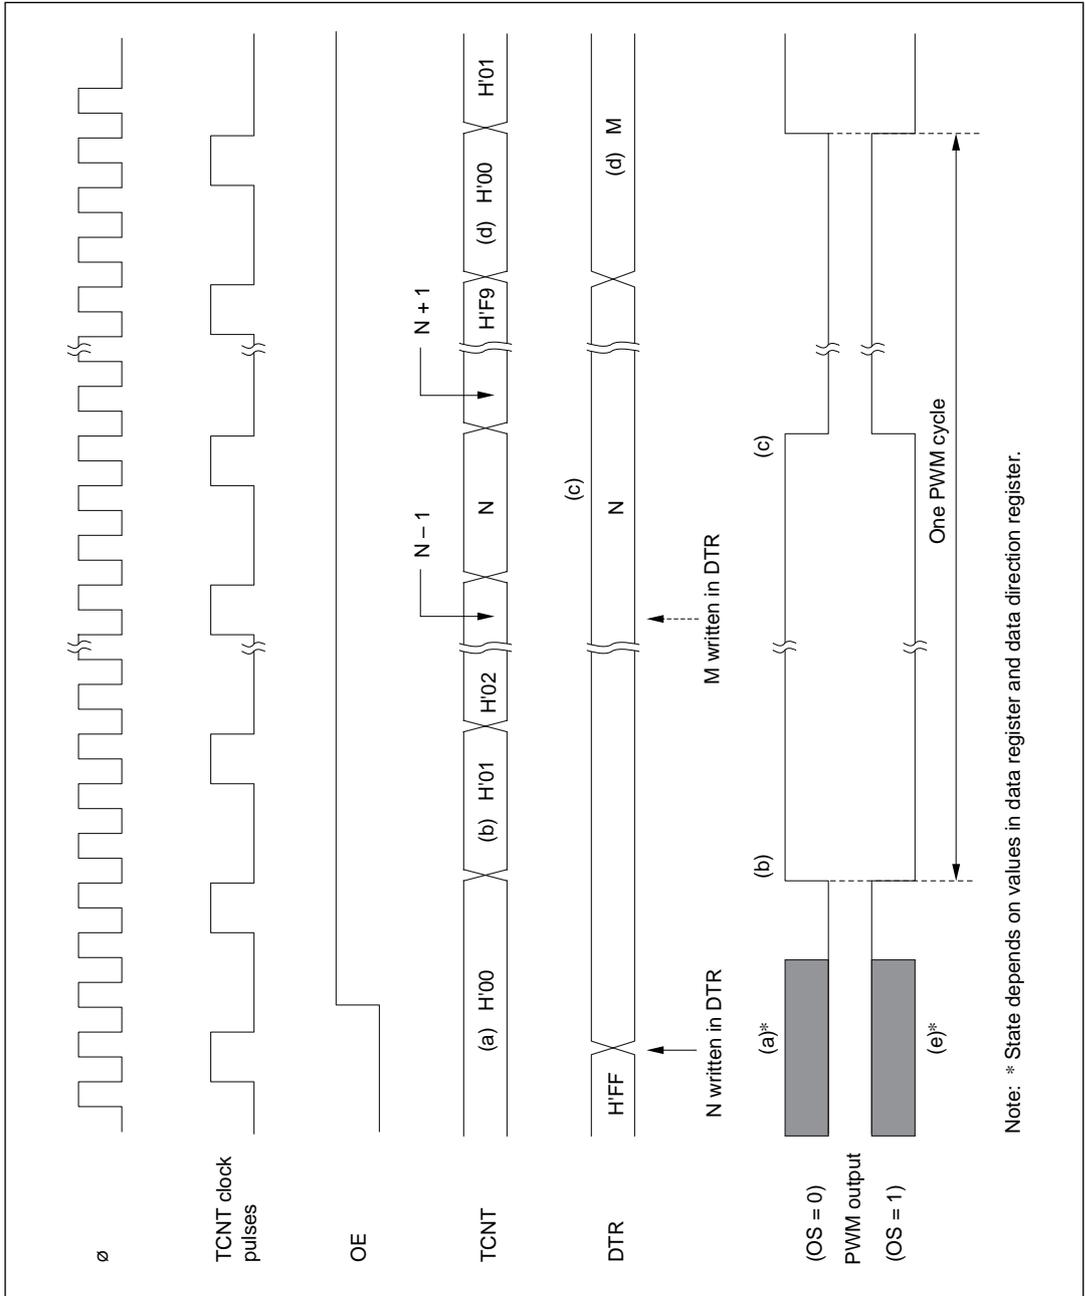

Figure 10-3 PWM Timing
Figure 10-3 is a timing chart of the PWM operation.
(1) **When (OE = 0)—(a) in Figure 10-3:** The timer count is held at H'00 and PWM output is inhibited. [Pin 4₆ (for PW0) or pin 4₇ (for PW1) is used for port 4 input/output, and its state depends on the corresponding port 4 data register and data direction register.] Any value (such as N in figure 10-3) written in the DTR becomes valid immediately.
(2) When (OE = 1)
- i) The timer counter begins incrementing. The PWM output goes high when TCNT changes from H'00 to H'01, unless DTR = H'00. [(b) in figure 10-3]
- ii) When the count passes the DTR value, the PWM output goes low. [(c) in figure 10-3]
- iii) If the DTR value is changed (by writing the data “M” in figure 10-3), the new value becomes valid after the timer count changes from H'F9 to H'00. [(d) in figure 10-3]
2. Inverted Output (OS = 1)—(e) in Figure 10-3: The operation is the same except that high and low are reversed in the PWM output. [(e) in figure 10-3]